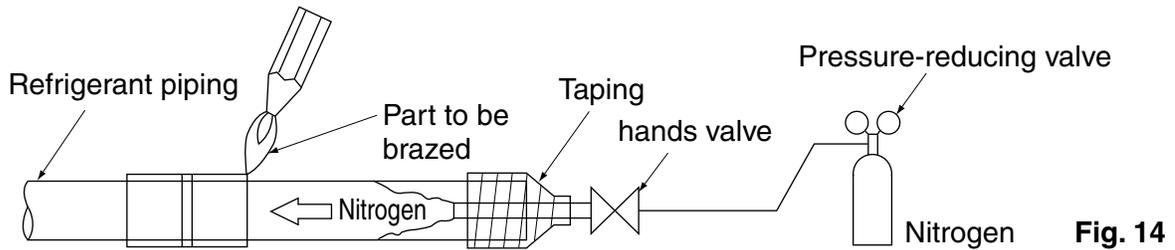

Fig. 14
2. Nitrogen should be set to 2.9 psi with a pressure-reducing valve if brazing while inserting nitrogen into the piping. **(Refer to Fig. 14)**